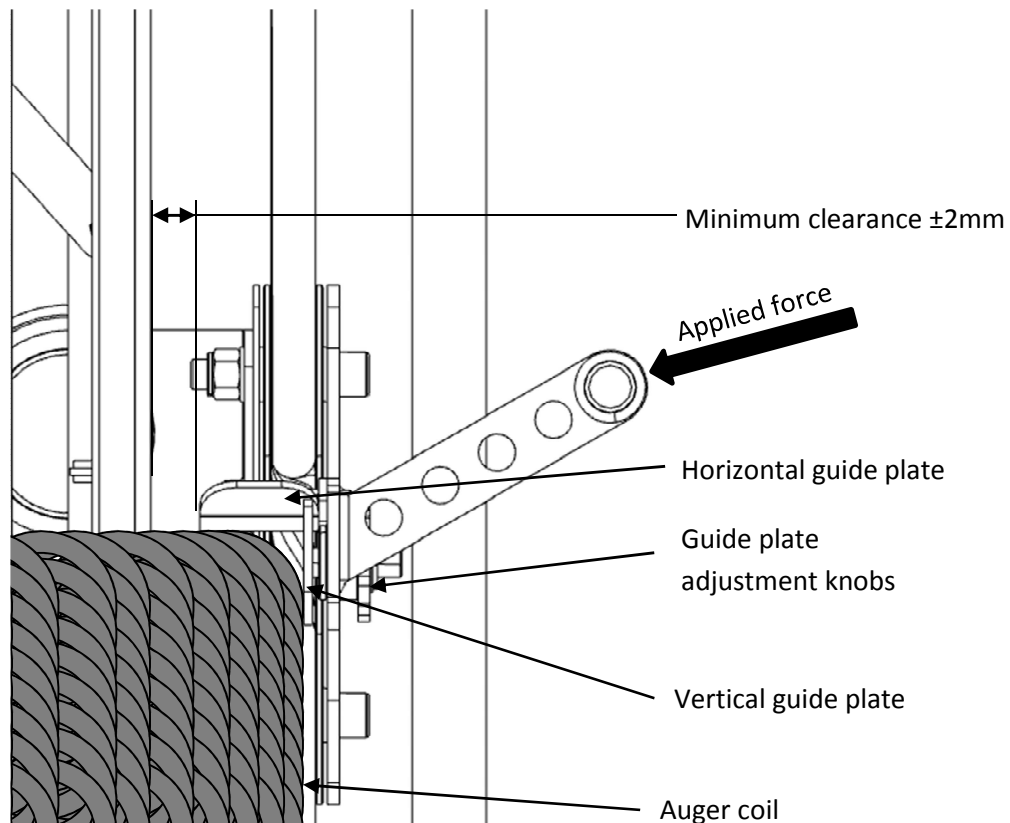

Figure 19: Coiler arm operation
The coiler arm is used to help wrap the auger tightly and neatly around the mandrel while the mandrel is turning. Before coiling commences, the coiler arm should be adjusted to fit correctly over the auger being coiled. When smaller augers are being coiled, the vertical guide plate should be adjusted to allow a ± 2 mm clearance between the edge of the coiling arm and the mandrel (see Figure 19). It can be adjusted by turning the two knobs on the arm. Always ensure that the side guide plate is adjusted evenly and that it remains parallel with the coiler arm. An uneven guide plate will impair the coiling performance.
When the auger is wrapped around the mandrel and the operator is ready to commence with coiling, place the arm onto the auger as shown in Figure 19. By applying a steady force on the arm at the position and in the direction as shown, the auger should mesh into itself neatly. When coiling is completed, the arm can be removed by pulling it towards the operator and then steadily lowering it downwards.
- Guide plates on coiling arm (Figure 19)